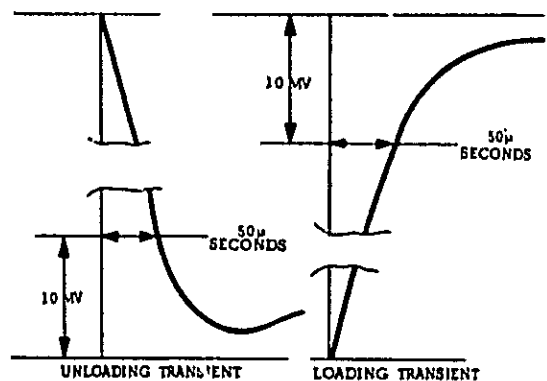

Figure 5-8. Transient Response, Waveforms
f. Adjust 25K potentiometer until a stable display is obtained on oscilloscope. Waveform should be within the tolerances shown in Figure 5-8. (output should return to within 10 mv of original value in less than 50 microseconds).